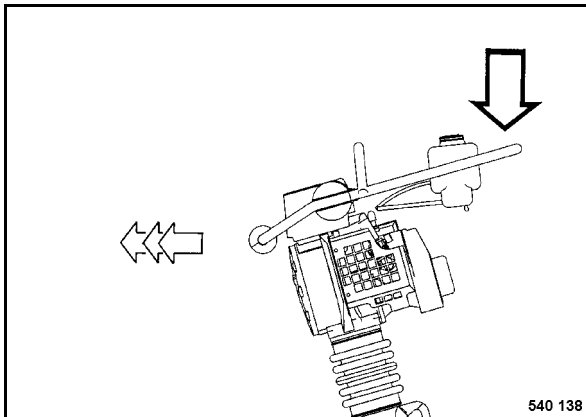

Fig. 21
- The travel speed can also be influenced by varying the pressing force on the steering bow (Fig. 21).